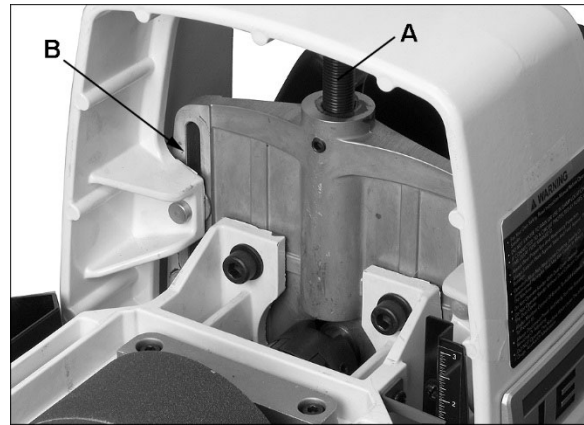

Figure 10-1
- Lubricate elevating leadscrew (A, Figure 10-1) as needed.
- Keep slide areas clean (B, Figure 10-1).